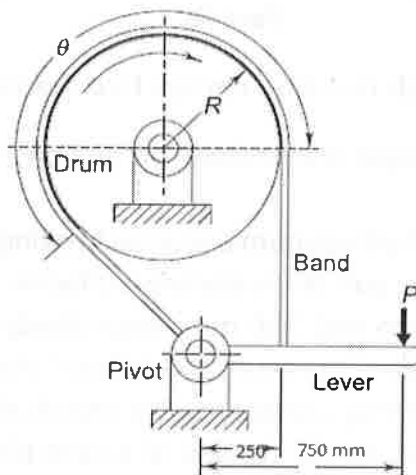

Figure : 2
7. A simple band brake is shown in figure 2. And assume the following $b = 250$ mm, $a = 750$ mm, $\theta = 225^\circ$, $R = 250$ mm, the width of the friction lining is 60 mm and coefficient of friction is 0.4, the maximum intensity of pressure is 0.25 N/mm². Calculate (i) Band tensions on tight and loose ends (ii) Actuating force (iii) Torque capacity of the brake.